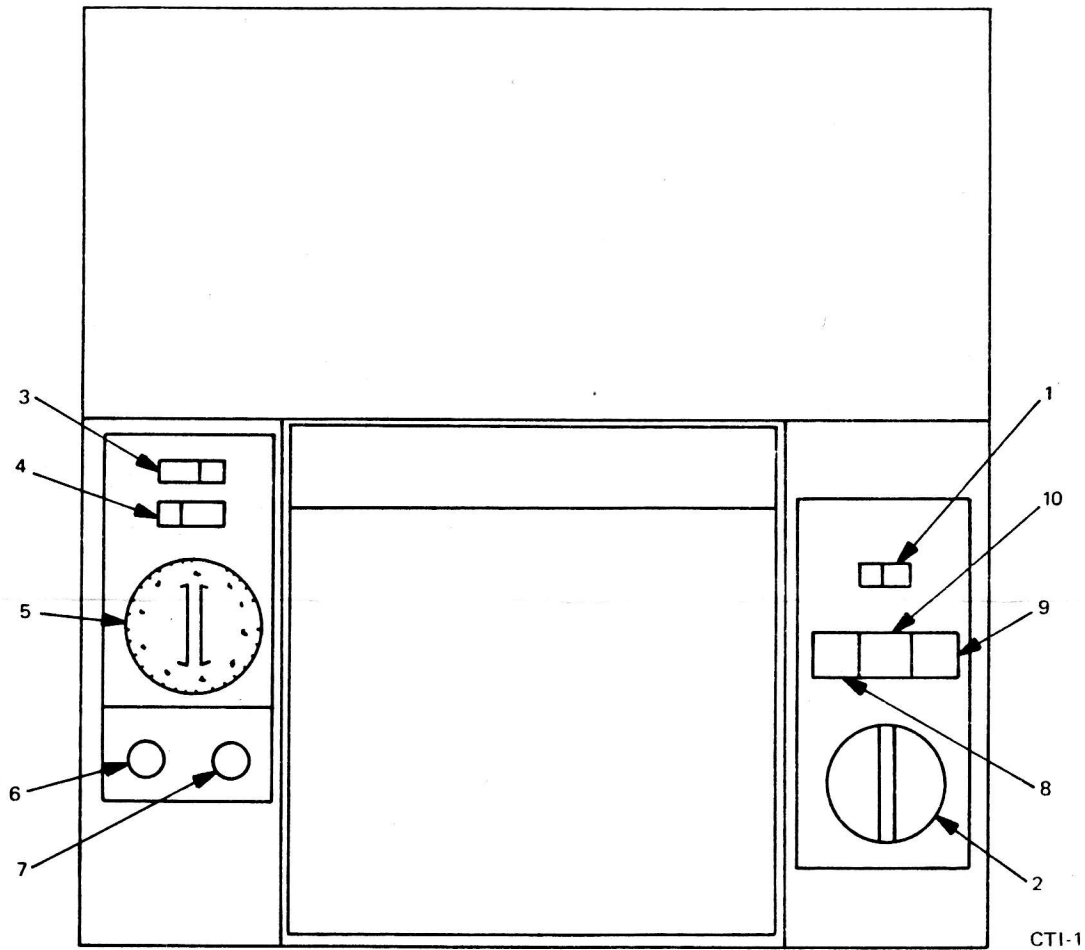
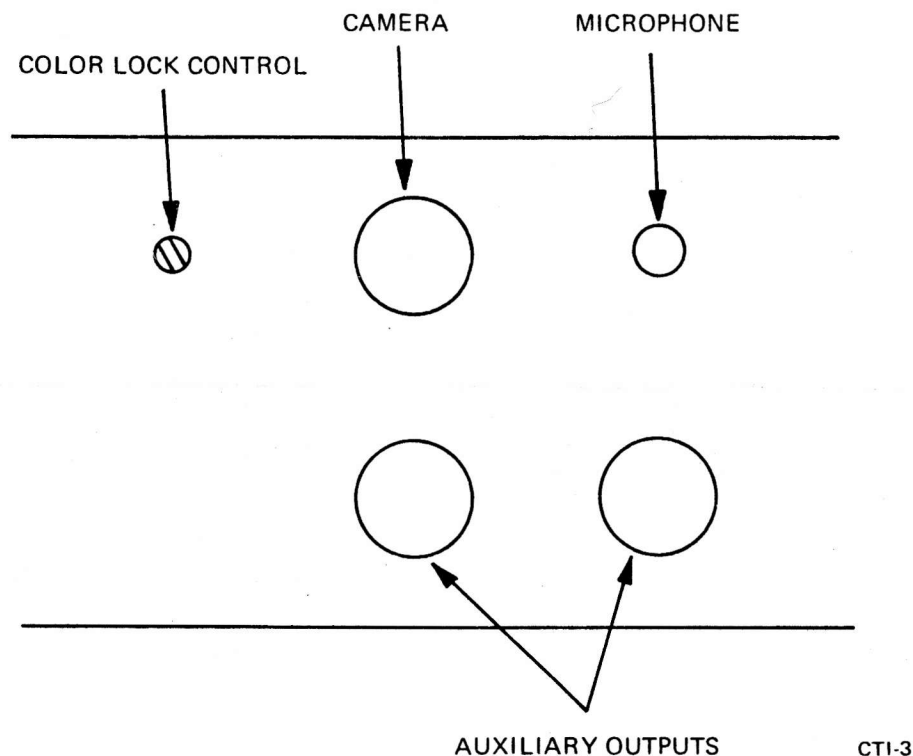

Figure 1.
Figure 3.
The operating controls are conveniently located on the front panel to the right of the cartridge holder or behind the door to the left of the cartridge holder. All the front panel controls are shown and described in Figure 1 and Table 1 of this section.
The **CARTAVISION®** Recorder uses either of two sizes of tape cartridges. The smaller cartridge contains sufficient tape for up to thirty minutes of playing time, while the larger cartridge has a playing time of up to 114 minutes. Cartridges can only be loaded with the function switch (No. 2 in Figure 1) in the STANDBY position. The cartridge holder is locked closed in either of the other two switch positions. To load the tape cartridge, refer to Figure 2 and proceed as follows:
To rewind the tape, make sure that the tape is stopped, then turn the function switch (No. 2 in Figure 1) to the REWIND position. At the end of tape rewind, the CARTAVISION® Recorder will automatically stop and return to STANDBY at the end of the tape.
To stop tape motion, either from standard operating speed or from one of the fast winding speeds, press the STOP button (No. 10 in Figure 1). This stops motion and returns all functions to STANDBY.
- Step 2: Apply power to the television set and place the CTV/TV switch (No. 1 in Figure 1) in the CTV position. Check to be sure that the TIMER/SLEEP switch (No. 4 in Figure 1) is in the NORMAL position.
- Step 3: At the desired time, simultaneously press the RECORD button (No. 9 in Figure 1) and turn the function switch (No. 2 in Figure 1) to the PLAY position. At the end of the recording, press the STOP button (No. 10 in Figure 1) and, if desired, rewind the tape and remove the cartridge.
The procedure for making a live recording is the same as that for recording an off-the-air program, except that—after step 1—the cables from the INSTANT REPLAY video camera and the microphone are connected to the appropriate receptacles at the rear of the CARTAVISION® Recorder (Figure 3) and the camera switch (No. 3 in Figure 1) is placed in the ON position. After the cables have been connected and the camera has been turned on, proceed with step 2 of the “Off-The-Air Recording Procedure”.
The procedure for making an unattended off-the-air recording is the same as that for recording a normal off-the-air program, except that after step 2—the TIMER/SLEEP Switch (No. 4 in Figure 1) is placed in the TIMER/SLEEP position and the TIMER control (No. 5 in Figure 1) is set for the difference between the time that the program is to start and the present time. For example, if the program to be recorded starts at 6:00 p.m. and the present time is 4:00 p.m., rotate the TIMER knob clockwise until the 2 (6:00 minus 4:00 = 2 hours) is under the TIMER marker “v”.
- Step 2:* Apply power to the television set and place the CTV/TV switch (No. 1 in Figure 1) in the CTV position. Check that the TIMER/SLEEP switch (No. 4 in Figure 1) is in the NORMAL position. Rewind the tape, if necessary.
- Step 3:* Turn the function switch (No. 2 in Figure 1) to the PLAY position. The recorder will now be in the play mode. There is a seven-second picture lock period after the function switch is turned to PLAY. During this time, the television screen will be dark.
- Step 4:* Starting from the extreme counter-clockwise position, *slowly* adjust the TUNE control (No. 6 in Figure 1) for the best picture on the television screen. Note that the TUNE control is effective only during playback and may cause hue changes during adjustment.
- Step 5:* Adjust the FINE TUNE control (No. 7 in Figure 1) so that the top of the picture, as viewed on the television screen, is straight and not bent to the left or right. The FINE TUNE control is effective only during playback.
The CARTRIVISION® Recorder and the television set can be made to automatically turn themselves off after playing back a tape cartridge. To do this, follow the "Playback Procedure" until the picture is on the television screen, then place the TIMER/SLEEP switch (No. 4 in Figure 1) in the TIMER/SLEEP position.